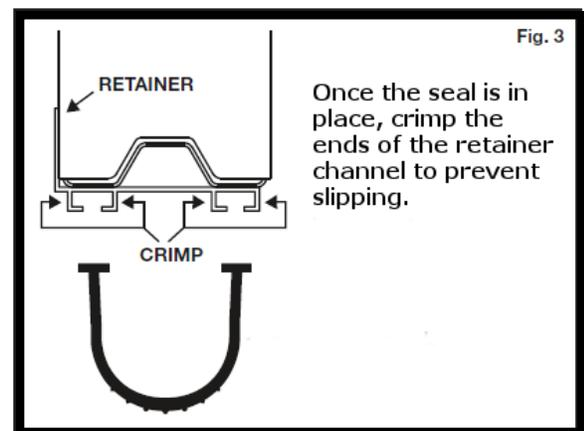

Fig. 3
2. Slide old seal out one end. Slide full length of new seal in flush with one end. If sticking occurs dish soap or silicone spray can be used as a lubricant. Go to other end, push about one inch extra into retainer and crimp retainer (Figure 3). This procedure is to hold astragal in place due to shrinking. Trim end flush with door edge.